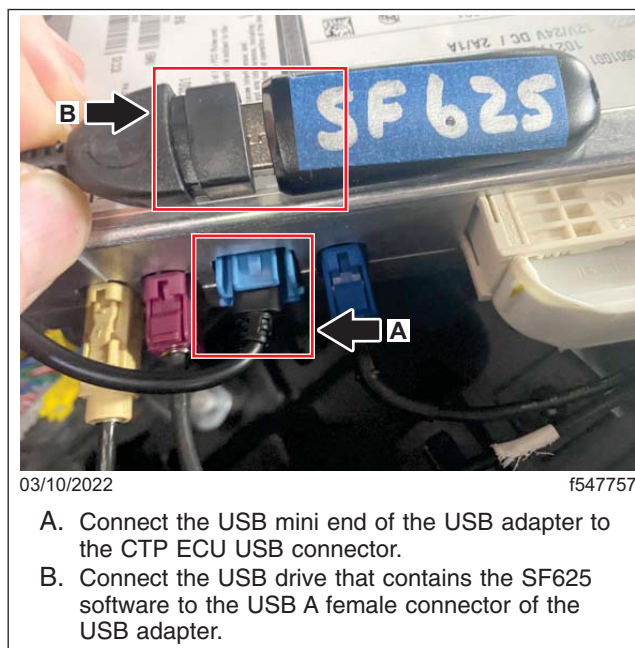

Fig. 30, USB Drive Connected to the CTP
11. Locate the CTP on the upper shelf in the electronics bay. Using a USB mini to USB A adapter, connect the USB drive containing the SF625 software to the CTP at the large blue USB mini connector. See **Fig. 30**. Some vehicles may already have a harness connected at the large blue CTP connector, which must be disconnected for this procedure. Make sure the USB adapter and the USB stick are completely inserted.